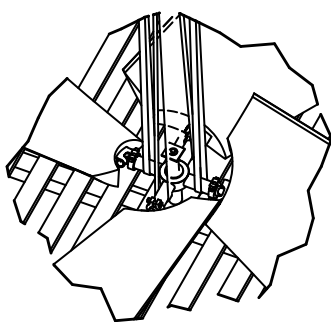

Figure 25. Attached to Blade Shanks
2. Wrap or loop slings around blade shanks (**Figure 25**).